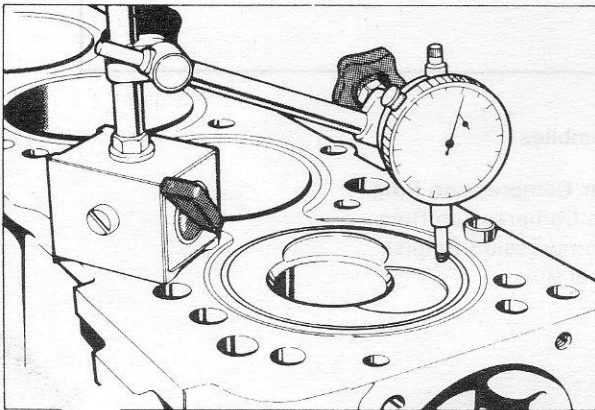

Fig. 42 - Measuring Piston Protrusion
50. Rotate the crankshaft to bring the piston to Top Dead Center (TDC). Use a dial gauge and magnetic base to ensure piston is at maximum height while applying a load to the top of the piston (Fig. 42).